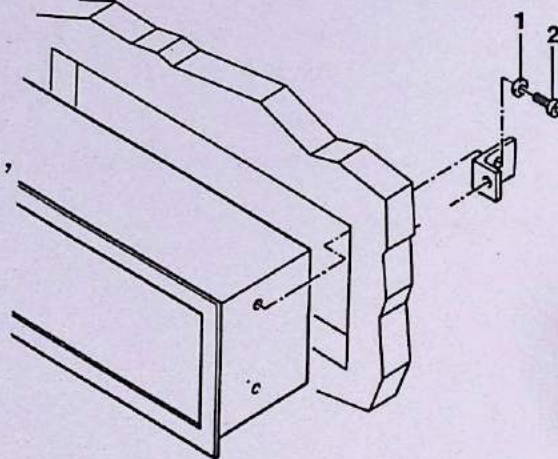

Fig. 503
- (1) Removal
- Fig. 503
- (a) Remove the four screws (2), and washers (1).